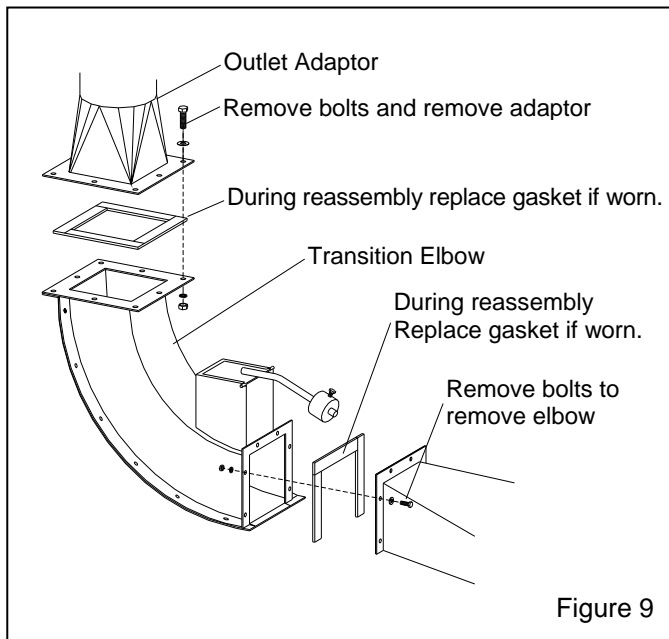

Figure 9
12.3 Transition Elbow Wear Plate Figures 9 and 10
12.3.1 Remove the bolts securing the top adaptor and remove the top adaptor, as shown in Figure 9. Remove the flex hose if necessary.